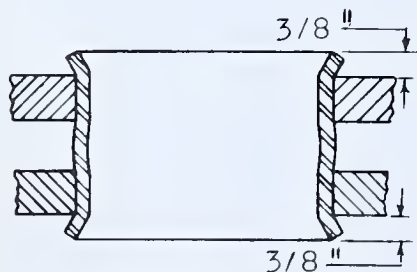
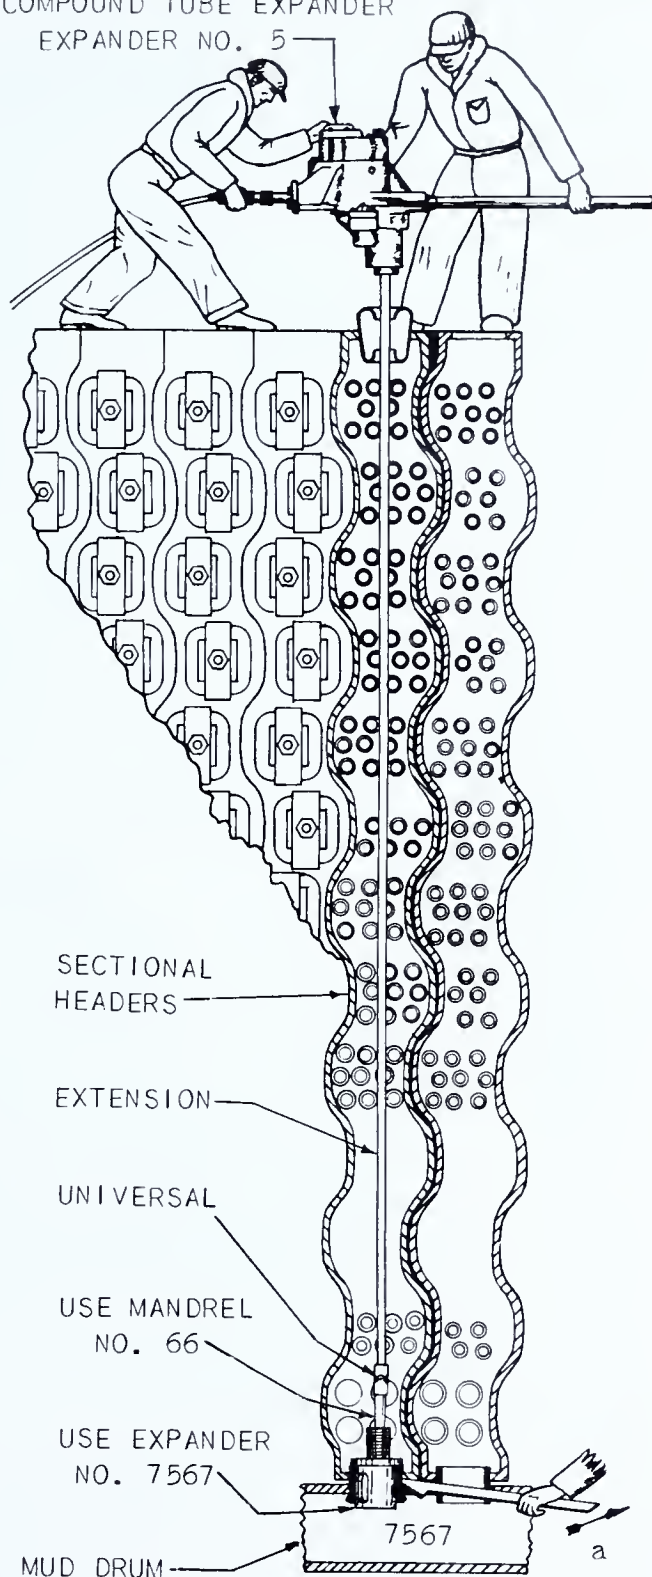
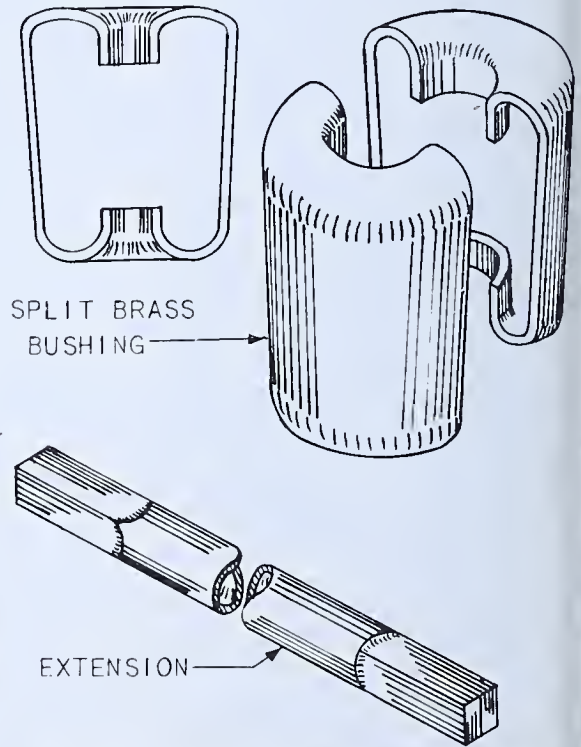

FIG. 472 — *Nipple Expanded*
FIG. 474 — Expanding
FIG. 476 — Split Bushing and Extension
The downtake sections are connected to the mud drum by nipples. See Fig. 472. The nipples are expanded into the mud drum and downtake sections.
The 6" scales are used to take this measurement. Each location must be measured individually and the lengths are recorded on a sheet of paper. Mark the downtake header to which each nipple belongs. Add  $\frac{3}{4}$  of an inch to the measured length of each nipple. This extra  $\frac{3}{8}$  of an inch on each end of the nipple is provided for the purpose of flaring the nipple ends. See Fig. 472.
5. Install a nipple in the end serrated hole (start at either end) of the mud drum and downtake header. Push the nipple up through the mud drum allowing it to project  $\frac{3}{8}$  of an inch above and below the inside surfaces. See Fig. 472. Hold the nipple in position with a short length of flat bar inserted in the space between the mud drum and the downtake. See Fig. 474 at *a*.
10. Lower an extension bar, through a brass bushing, Fig. 476, from the top side of the sectional header into the universal in Step 9. See Fig. 474.
13. Roll the nipple until it is correctly expanded and flared into the serrated tube seat of the mud drum. See Fig. 472.